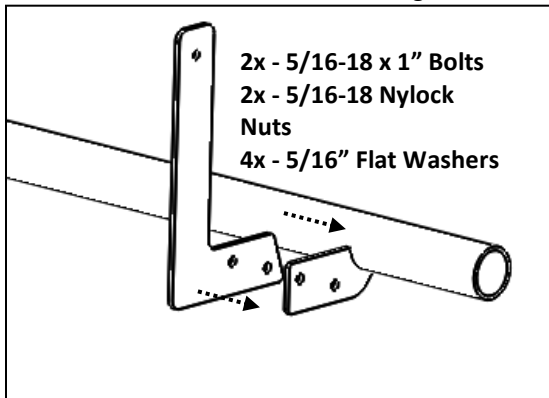

Figure 1: Bolt-On Rear Blades.
1. Attach both bolt-on rear blades onto nerf bars with the 5/16" hardware as shown in **Figure 1**